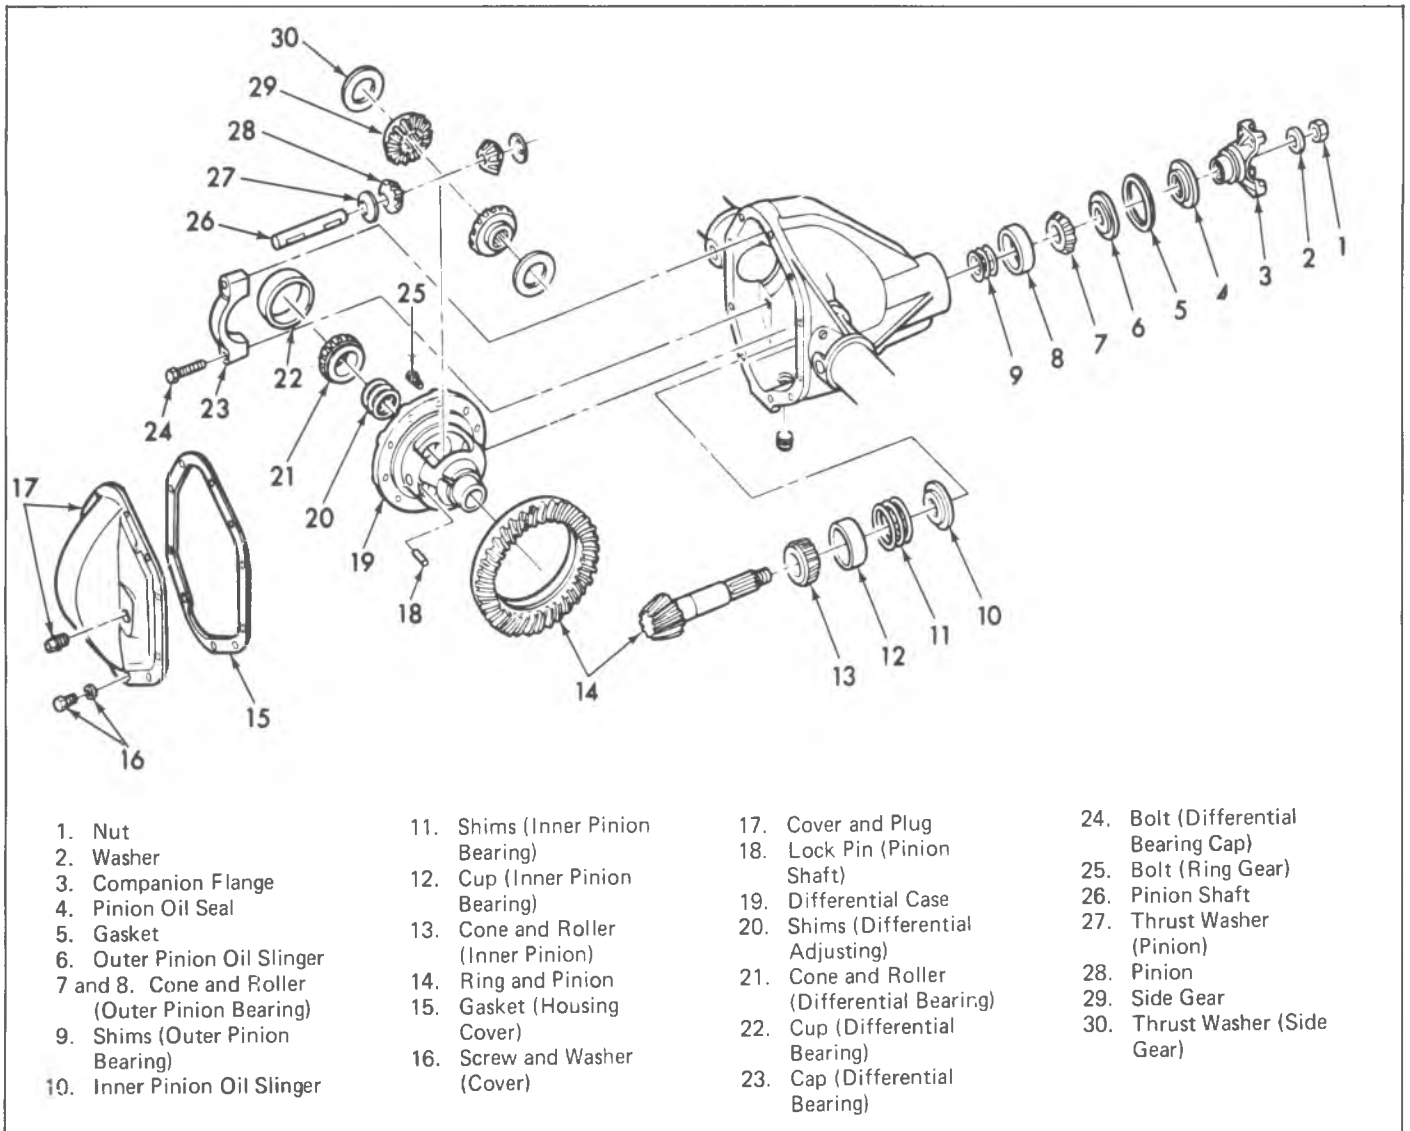

Fig. 14F—Dana Differential With 9-3/4" Ring Gear—Exploded View
1. The differential side bearing shims are located between the side bearing cone and roller assembly and the differential case. See figure 14F. These bearings are of the tapered roller design and are preloaded. In order to remove the differential case the carrier must be spread.